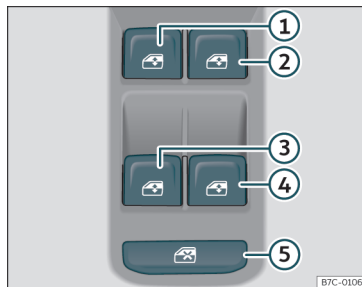

Fig. 116 Detail of the driver door: controls for the windows.
The safety switch  **Fig. 116**  on the driver door can be used to disable the electric window buttons on the rear doors.
Buttons >>> **Fig. 116** ①, ②, ③ and ④ have two positions for opening windows and two for closing them. This makes it easier to open and close windows to the desired position.